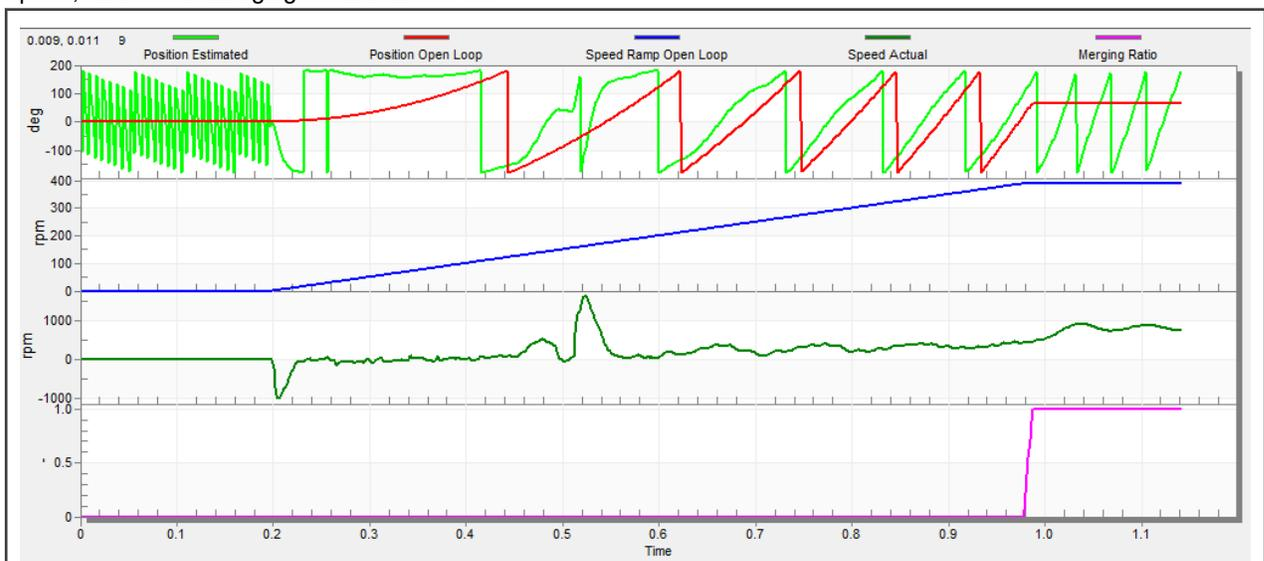

Figure 37. Motor startup
1. The start-up process can be tuned by a set of parameters located in the “Sensorless” tab. Two of them (ramp increment and current) are accessible in both tuning modes. The start-up tuning can be processed in all control modes besides the scalar control. Setting the optimal values results in a proper motor startup. An example start-up state of low-dynamic drives (fans, pumps) is shown in Figure 37.